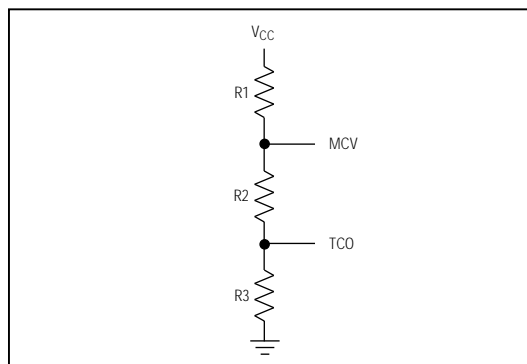
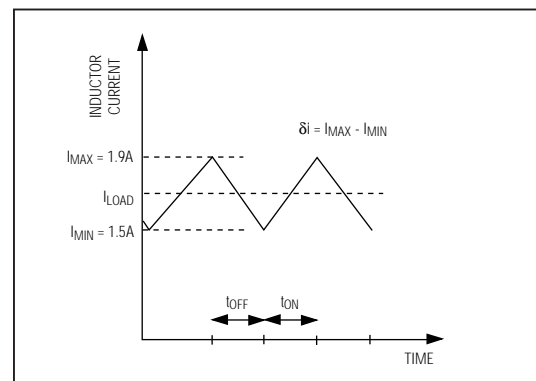

Figure 9. Resistor Configuration for MCV and TCO
Figure 10. Inductor-Current Waveform in Continuous-Conduction Mode
7) Select Maximum Cell Voltage (MCV) and Temperature Cutoff (TCO). The MCV and TCO can be selected with a resistor-divider combination (Figure 9). In our example, TCO has been set to +10°C, which corresponds to a voltage of 1.72V at the TS pin. The MCV for most fast-charge batteries can be set to about 1.9V. To minimize the current load on V_{CC} , choose R_1 in the range of 20k Ω to 200k Ω . In this example, choose $R_1 = 60.4\text{k}\Omega$, then calculate R_3 and R_2 as follows:
In order to provide high currents with minimum ripple, the device must function in the continuous-conduction mode. Figure 10 shows a current waveform of an inductor in the continuous-conduction mode (where the coil current never falls to zero).
The average load current (I_{LOAD}) through the inductor must be 1.7A, so a peak current (I_{MAX}) of 1.9A should give a fairly low ripple while keeping the inductor size minimal. This means that the total current change (Figure 10) across the inductor is $\Delta I = 2(1.9 - 1.7) = 0.4A$.
The MAX2003/MAX2003A can use several other circuits to charge batteries. Figure 9 shows a circuit that uses a Darlington transistor to regulate the current a six-cell NiCd battery pack receives. Figure 10 shows a gated current-limited supply being used to charge a Duracell NiMH battery pack. Table 6 lists the external components used in these two application configurations.